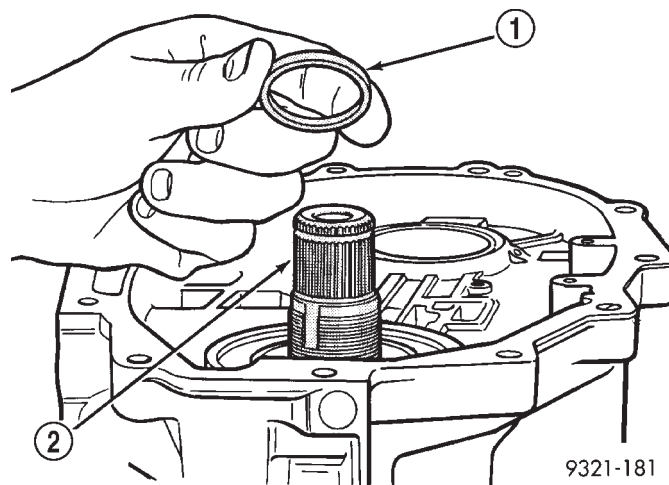
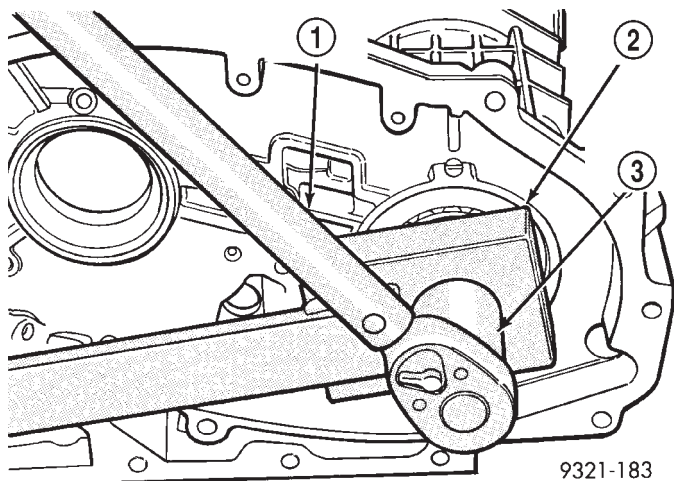

Fig. 419 Transfer Preload Shim Installation
Fig. 420 Transfer Shaft Nut Installation
(41) Install Transfer shaft preload shim (Fig. 419). Use the original shim that was taken out of transaxle if possible. If original shim is not available, use the thickest shim as a starting point. Refer to Transfer Shaft Rear Shim Chart for available sizes.
(42) Install rear transfer shaft cone. Press cone on transfer shaft using Special Tool MD998805.
(43) Remove transfer shaft support fixture (special tool 6595).
(44) Install a new transfer shaft nut (Fig. 420). Tighten nut to 271 N·m (200 ft. lbs.). Use special tools 6497 holder and 6498 shaft socket to tighten nut.